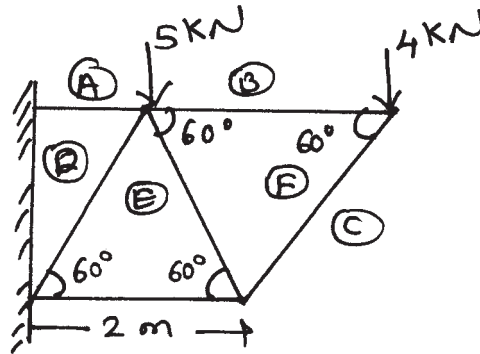

Fig. No. 6
- b) A cantilever truss as shown in Fig. No. 6. Find the forces in the member BF, EC, EF and FC method of Joint.